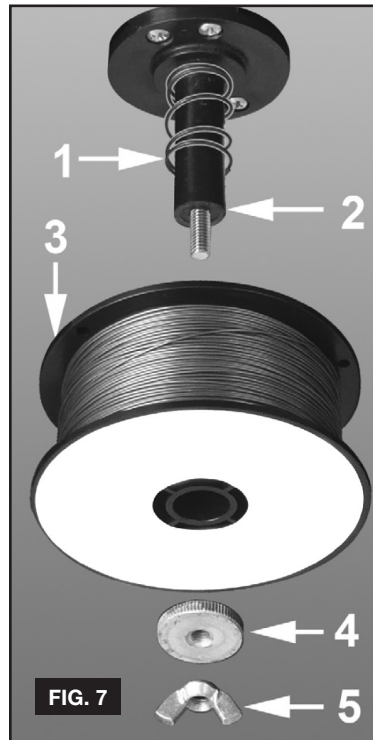

FIG. 7
- 8.1.2 Referring to fig.7, rotate the butterfly nut (5) anti-clockwise and remove it from the threaded spindle together with the pressure disc (4). Leave the spring (1) on the spindle (2).